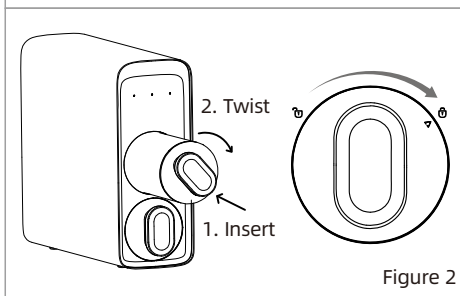

Figure 2
- Remove the packaging of the new filter and insert the cartridge in the system. Twist it clockwise to align the triangle icon on the filter cartridge with the lock icon on the system (Figure 2).